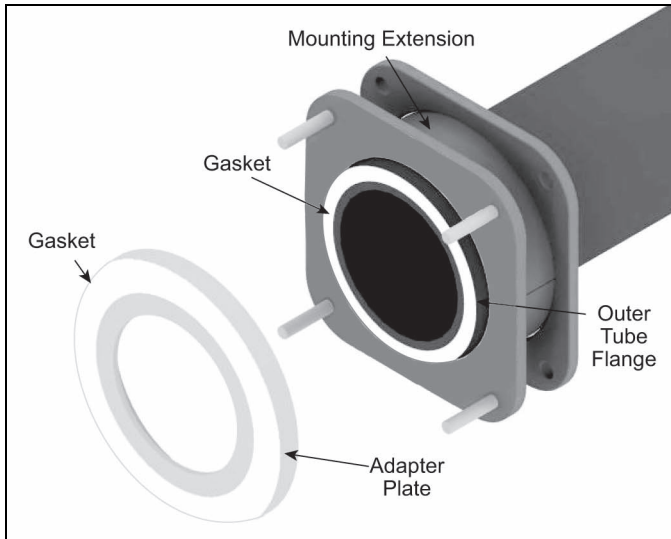

Figure 3.10
- Place gasket against adapter plate. See figure 3.10.